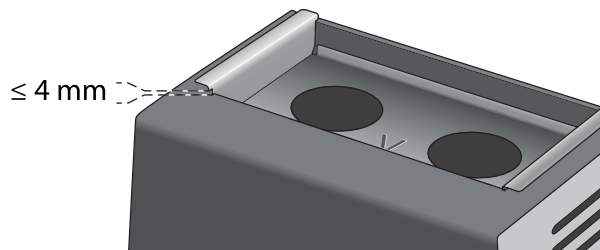

Fig. 9: Fitting the grill insert correctly
- the ,V'-marking faces towards the front of the unit (fig. 9),
- the insert is pushed down all the way and correctly seated (fig. 9).